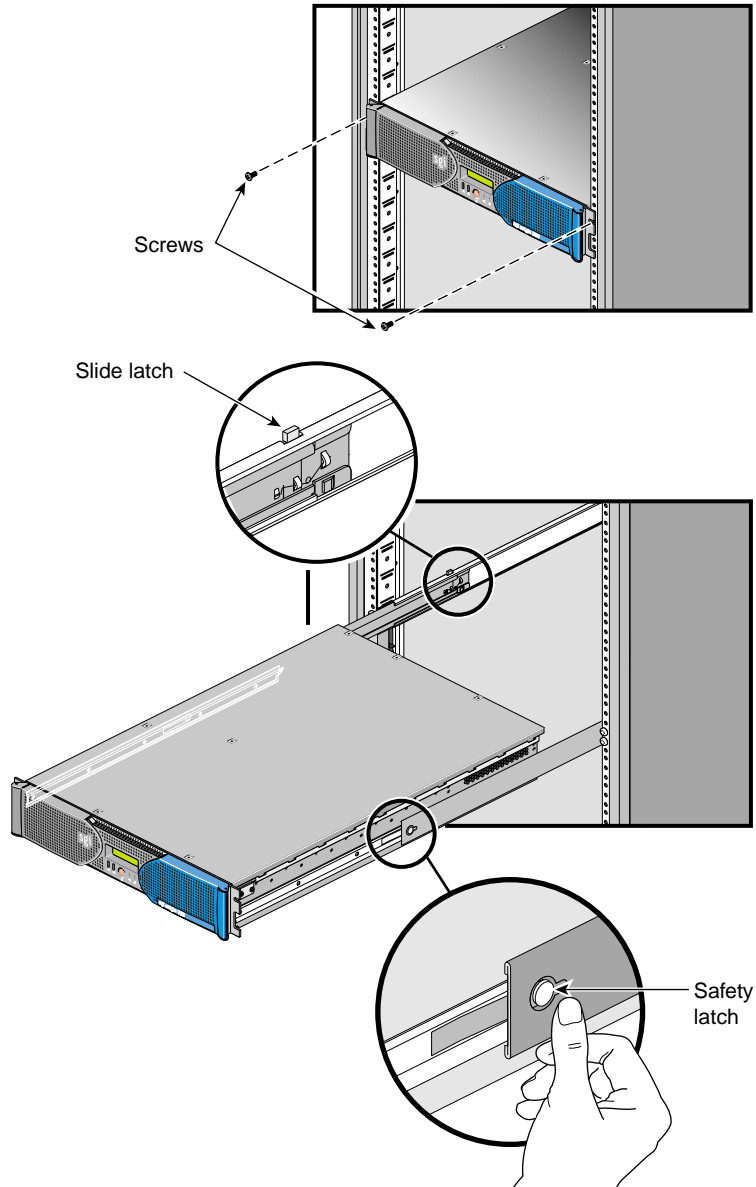

Figure 1 Removing Module from Rack
3. Remove the module from the rack by performing the following steps (see Figure 1):